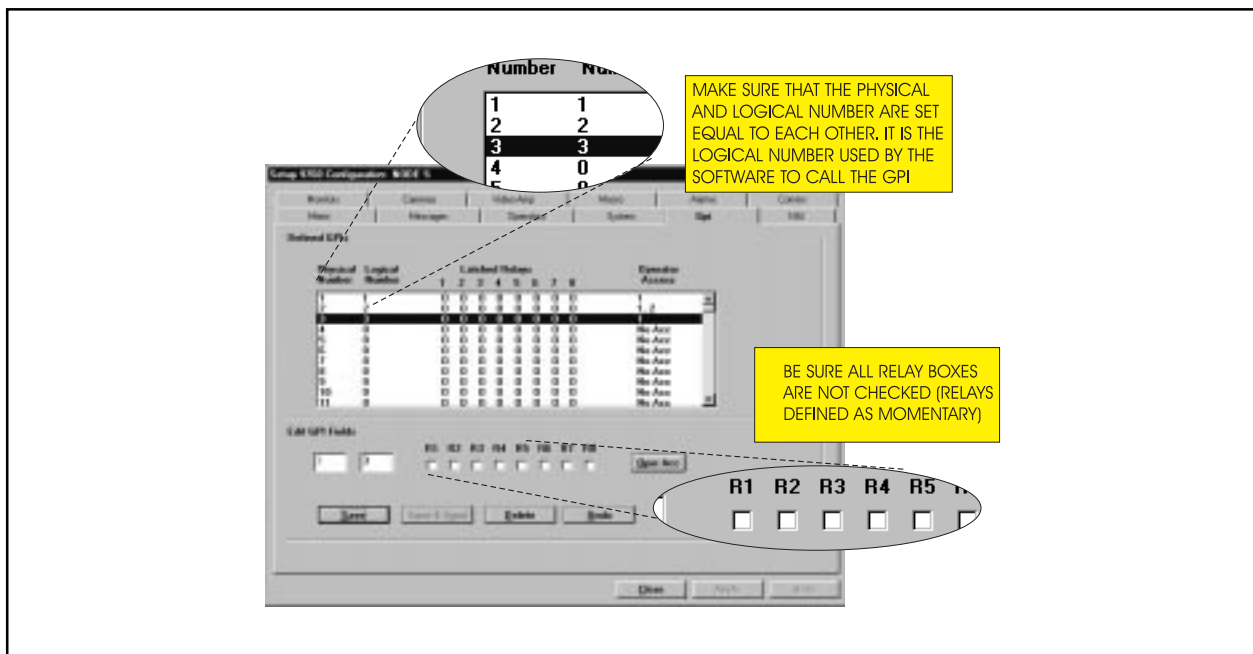

Figure 12. Configuring the GPI SETUP file for VCRC Operation
7. This brings up the GPI SETUP file dialog box (.GPI file). Refer to Figure 12.